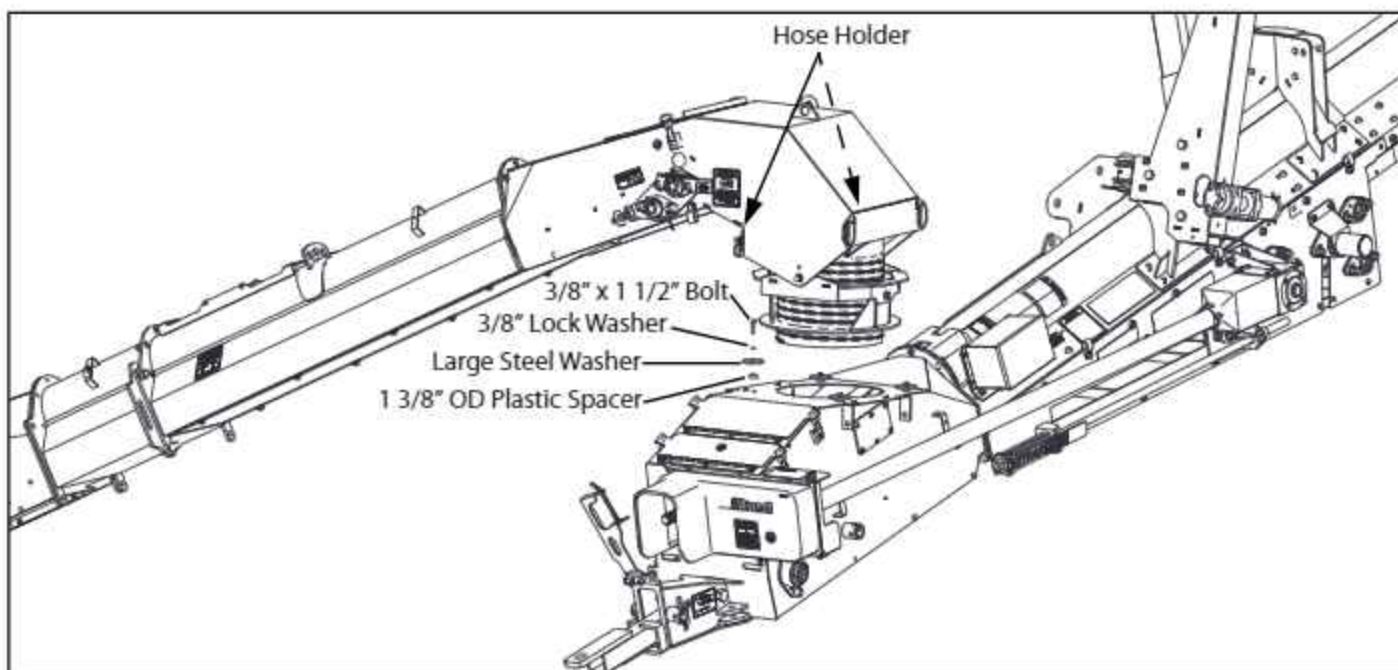

FIG. 3-83. Installing the Swing Conveyor
2. Lower the spout onto the top of the boot. When the swing tube spout is seated properly, the flange on the end of the spout should lay flat onto the boot. Secure in place using the hardware illustrated in Fig. 3-83. The 3/8" I.D. x 1 3/8" O.D. x 3/8" thick plastic spacers are positioned on the boot and next to the outside of the flange, followed by the 3/8" ID x 2 3/4" O.D. x 1/4" thick steel washers, 3/8" lock washers and 3/8" x 1 1/2" bolts.